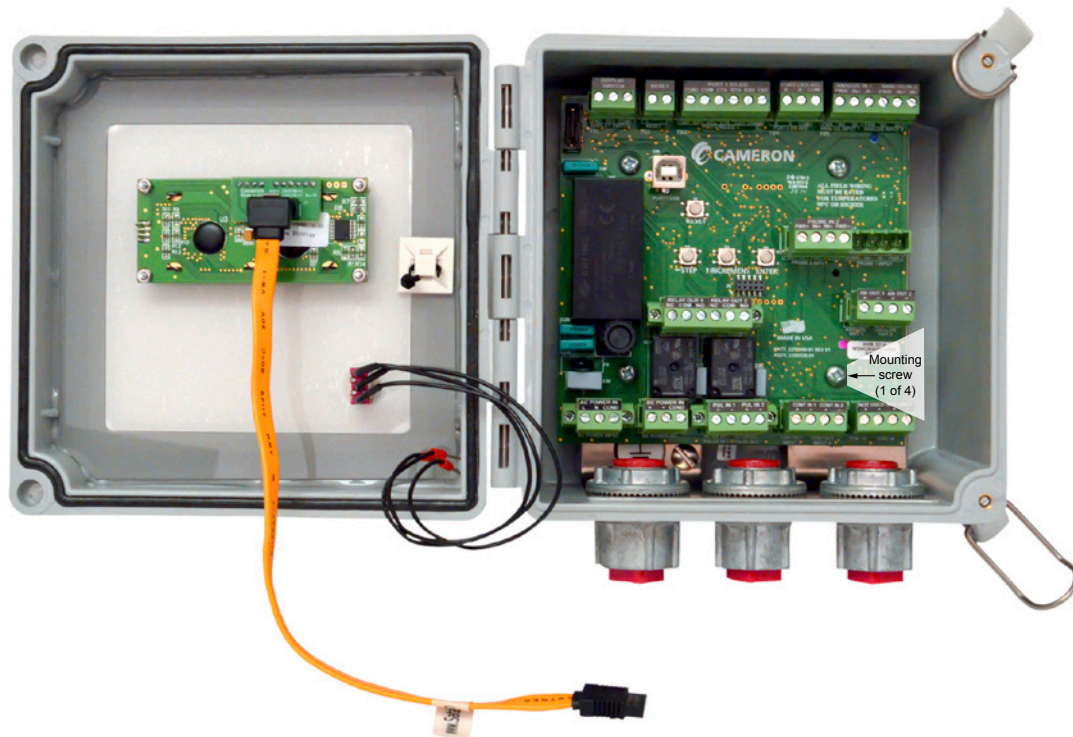

Figure 5.4—Location of circuit board mounting screws
6. Using a standard blade screwdriver, remove the four mounting screws located on the circuit board. Carefully lift the circuit assembly from the enclosure (Figure 5.4, Page 47).